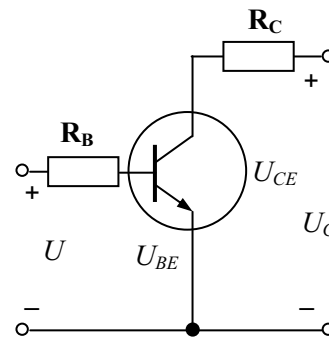

Fig. 1.22
**Beta and alpha gains.** In Fig. 1.22, the common side, or groundside of each voltage source is connected to the emitter. Because of this, the circuit is an example of a CE connection with the *base circuit* to the left and the *collector circuit* to the right. Current from the energy supply enters the collector, flows through the base, and exits via the emitter. The collector current approximately equals to the emitter current. The base current is much smaller, typically less than 5 percent of the emitter current. The ratio of the collector current  $I_C$  to the base current  $I_B$  is called a *current gain* or *static gain* or *dc beta* of the transistor, expressed as
Here  $U_C$  and  $U_{CE}$  are shown in Fig. 1.22. An *operating point* or *quiescent point*  $Q$  of the transistor lies on the load line. The collector current, collector-emitter voltage, and current gain determine the location of this point.